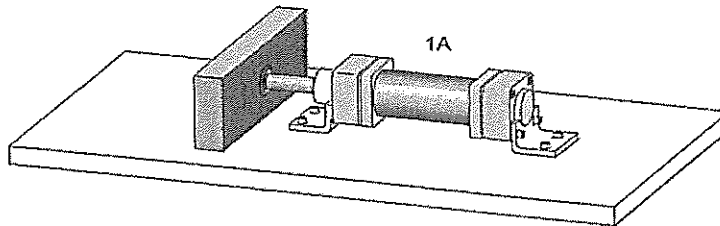

Figure Q3(b) (source: Pneumatics Basic Level, Festo)
b. By referring to Figure Q3(b), construct a pneumatic circuit.